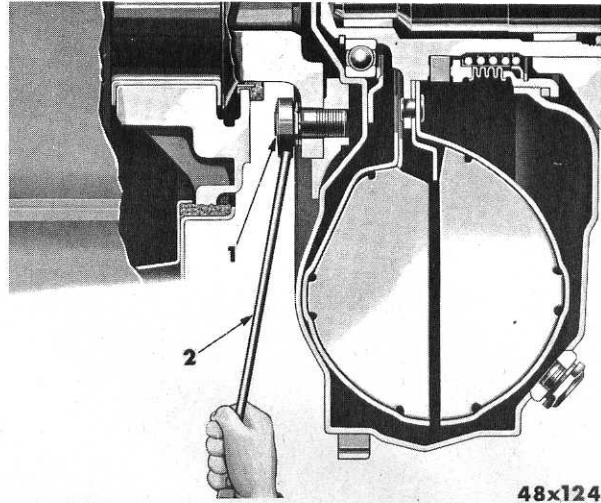

Fig. 3—Removing Driver Flange Stud Nuts (1) with Tool C-589 (2)
- (11) Remove the driver flange stud nuts with Tool C-589 (Fig. 3).
- (12) Pull back the fluid drive unit until it is free from the crankshaft flange. Then, withdraw the fluid drive assembly from the clutch housing.